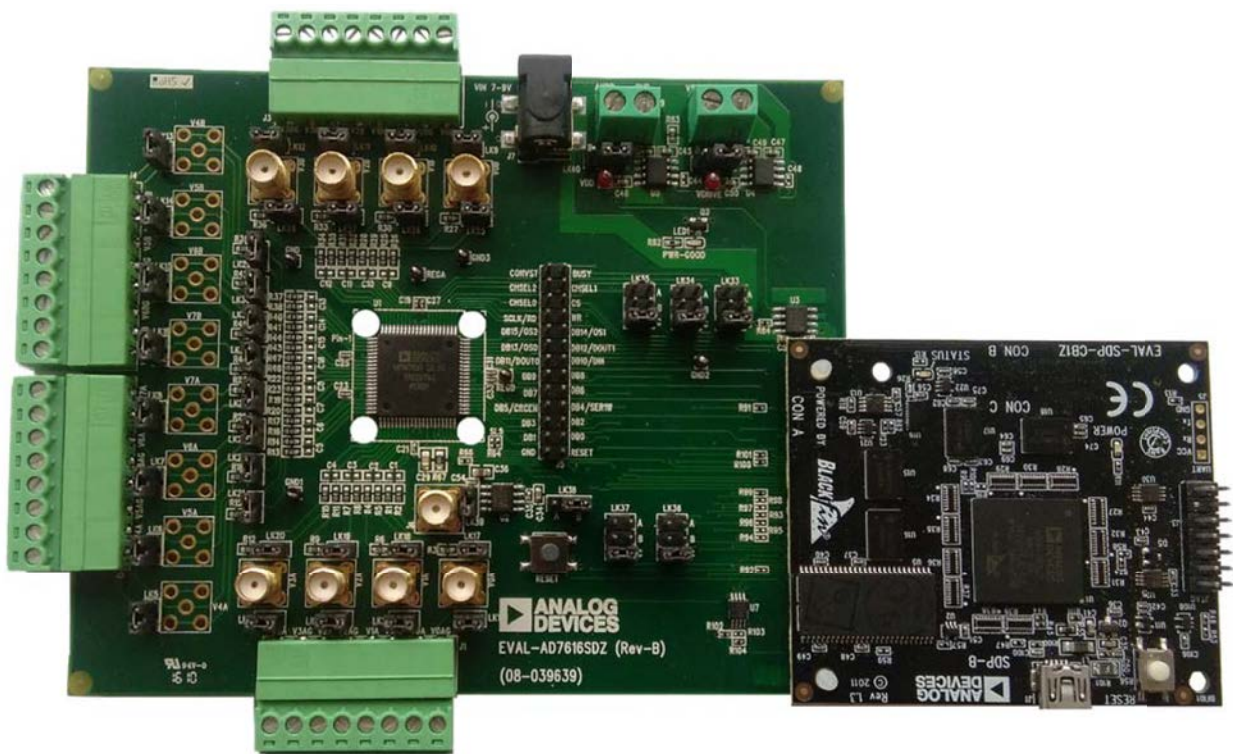

Figure 2. EVAL-AD7616SDZ Evaluation Board (Left) Connected to the EVAL-SDP-CB1Z Board (Right)
3. Connect the EVAL-SDP-CB1Z board to the evaluation board, shown in Figure 2.
The EVAL-AD7616SDZ connects to the EVAL-SDP-CB1Z. The EVAL-SDP-CB1Z is the controller board, which is the communication link between the PC and the EVAL-AD7616SDZ. Figure 2 shows a photograph of the connections between the EVAL-AD7616SDZ evaluation board and the EVAL-SDP-CB1Z.